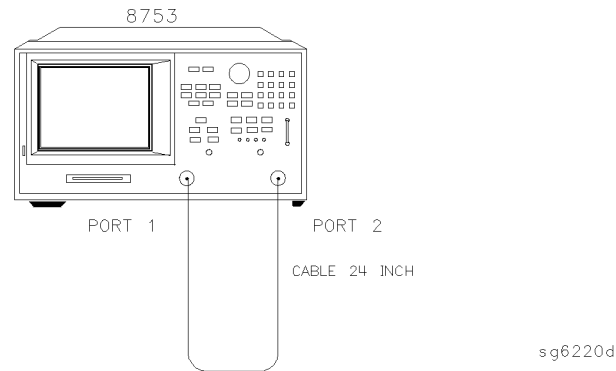

Figure 4-17. Test Port 2 Input Frequency Response Test Setup
- 47 When the analyzer displays the message, POWER METER CALIBRATION SWEEP DONE, connect the equipment as shown as in Figure 4-17.